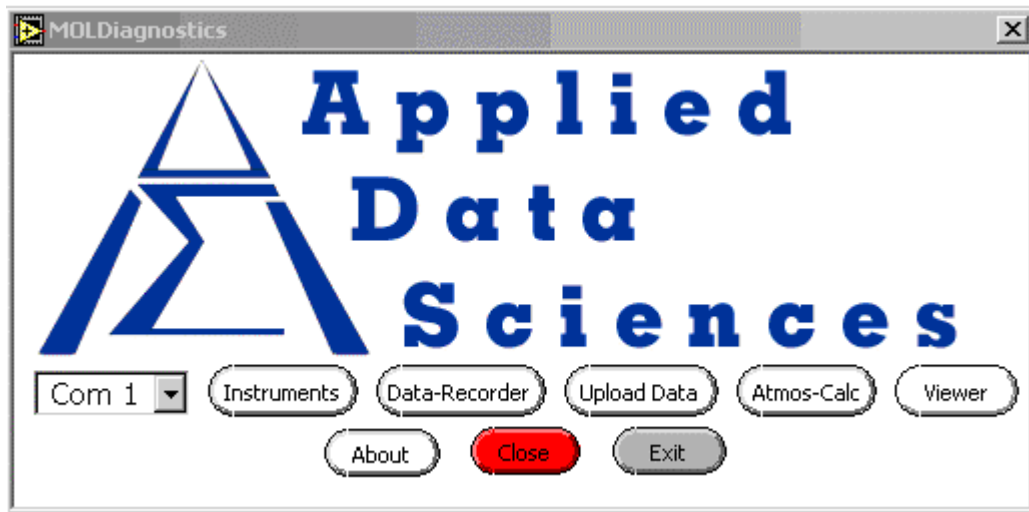
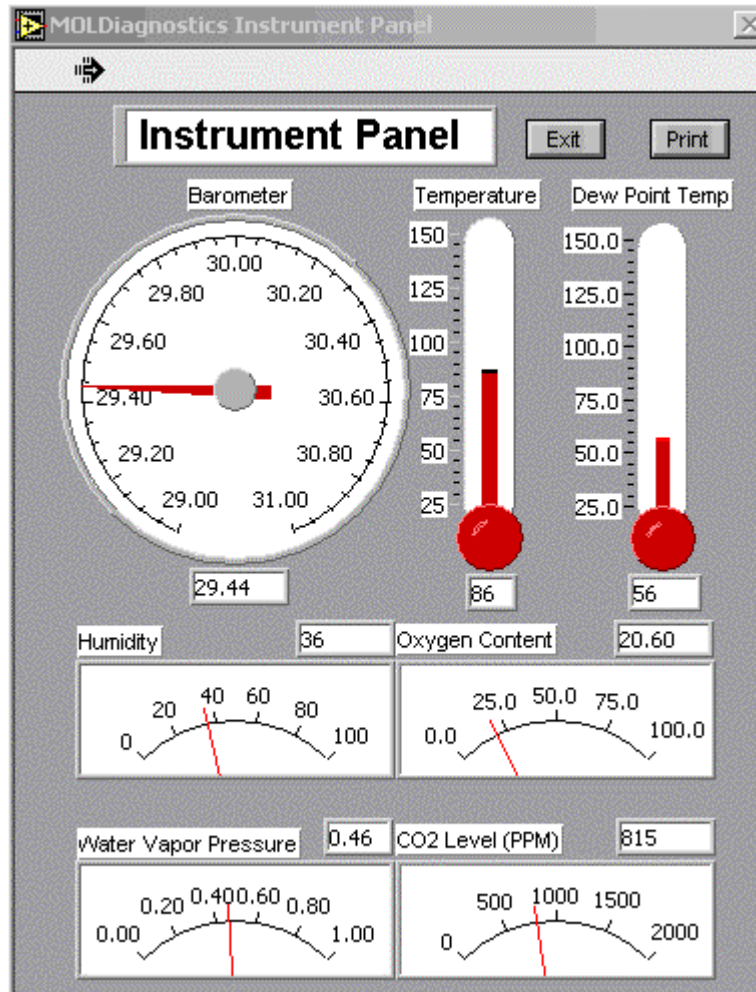
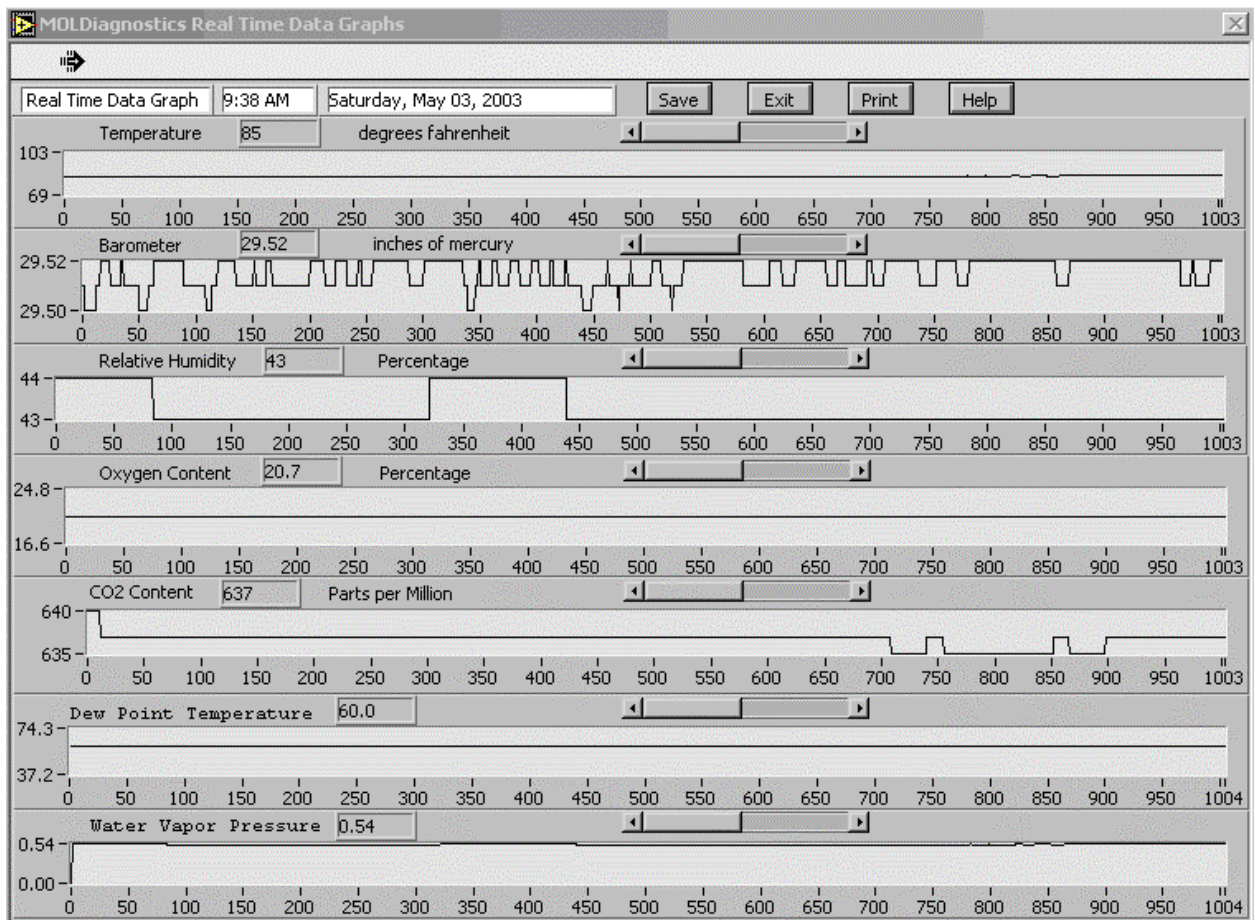
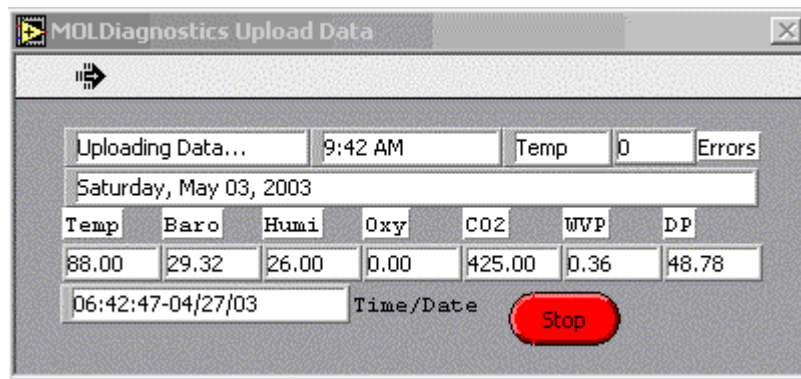

FIGURE 1.0
FIGURE 2.0
FIGURE 3.0
FIGURE 4.0
3. You now will see the menu screen shown in FIGURE 1.0. The screen displays the name **MOLDIAGNOSTICS** in the upper left corner of the display.
Refer to FIGURE 2.0. This figure is shown when clicking **INSTRUMENTS** on the main menu screen shown in the previous FIGURE 1.0. This screen shows the various sensor readings in either an analog or digital format. The Instrument Panel includes.
This function takes real-time measurements from the sensors at or about 11 samples per second and then displays the data on the graph. An example of this graph is shown in FIGURE 3.0. This figure is shown when clicking **DATA-RECORDER** on the main menu screen shown in the previous FIGURE 1.0. There are seven graphs displayed on the screen, displaying:
This function transfers the data that is stored in the **MOLdiagnostics** unit's EEPROM, and is sent to the PC. An example of this function screen is shown in FIGURE 4.0. This figure is shown when clicking **UPLOAD DATA** on the main menu screen shown in the previous FIGURE 1.0